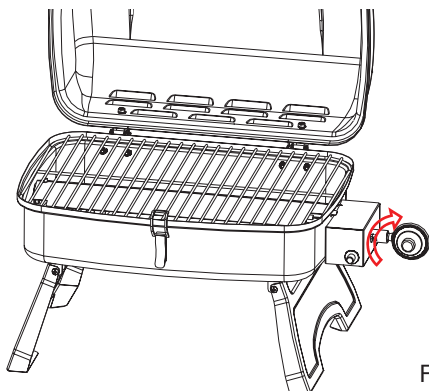

Fig. 11
*Procedure:* Screw clockwise the Regulator onto the Burner as shown in Fig. 11.